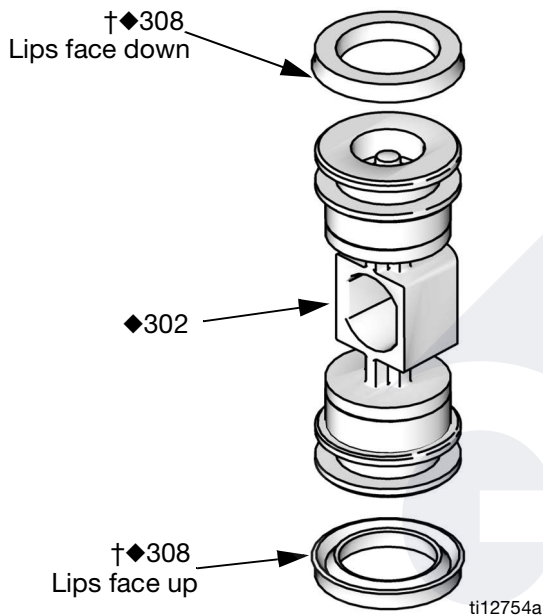

FIG. 18. Pneumatic Valve U-cup Installation
2. See FIG. 18. Lubricate the u-cups (308†◆) and install on the piston (302◆) with lips facing toward the center of the piston.